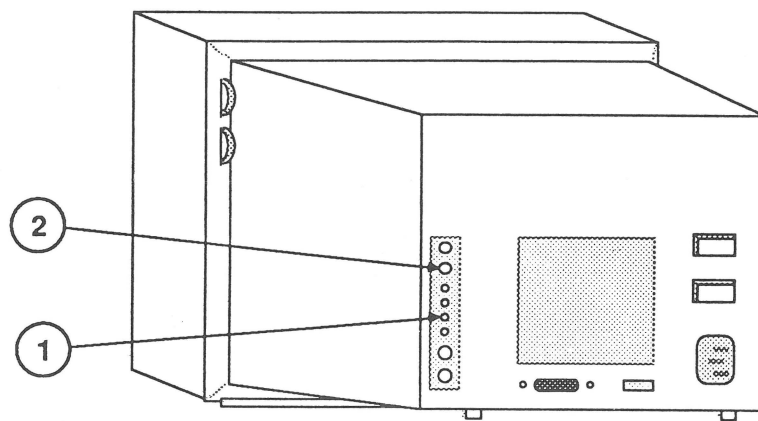

FIGURE 4
2. Using the insulated screwdriver, turn the VERTICAL SIZE control (Figure 4, #1) until the raster is 176 mm high.
2. Using the insulated screwdriver, turn the FOCUS control (Figure 4, #2) for maximum clarity at a position **halfway between the center and the side edge of the screen.**